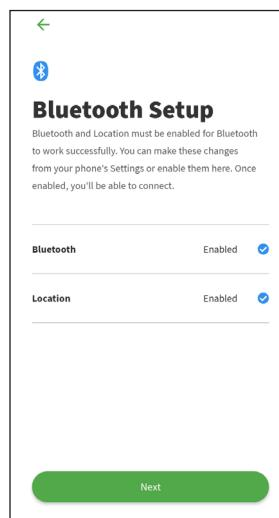

Figure 162 - Confirm Options Enabled
- 4** Select the “Next” button at the bottom of the screen to continue once Bluetooth and Location have been enabled (Figure 162).